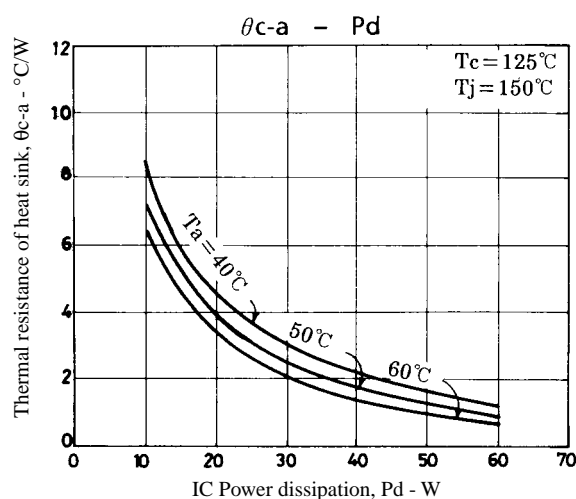

Figure 3. STK4122II θc-a – Pd
Figure 3 shows the relation between Pd and θc-a given from (1) and (3) with Ta as a parameter.
The thermal resistance of a heat sink is obtained from Figure 3.